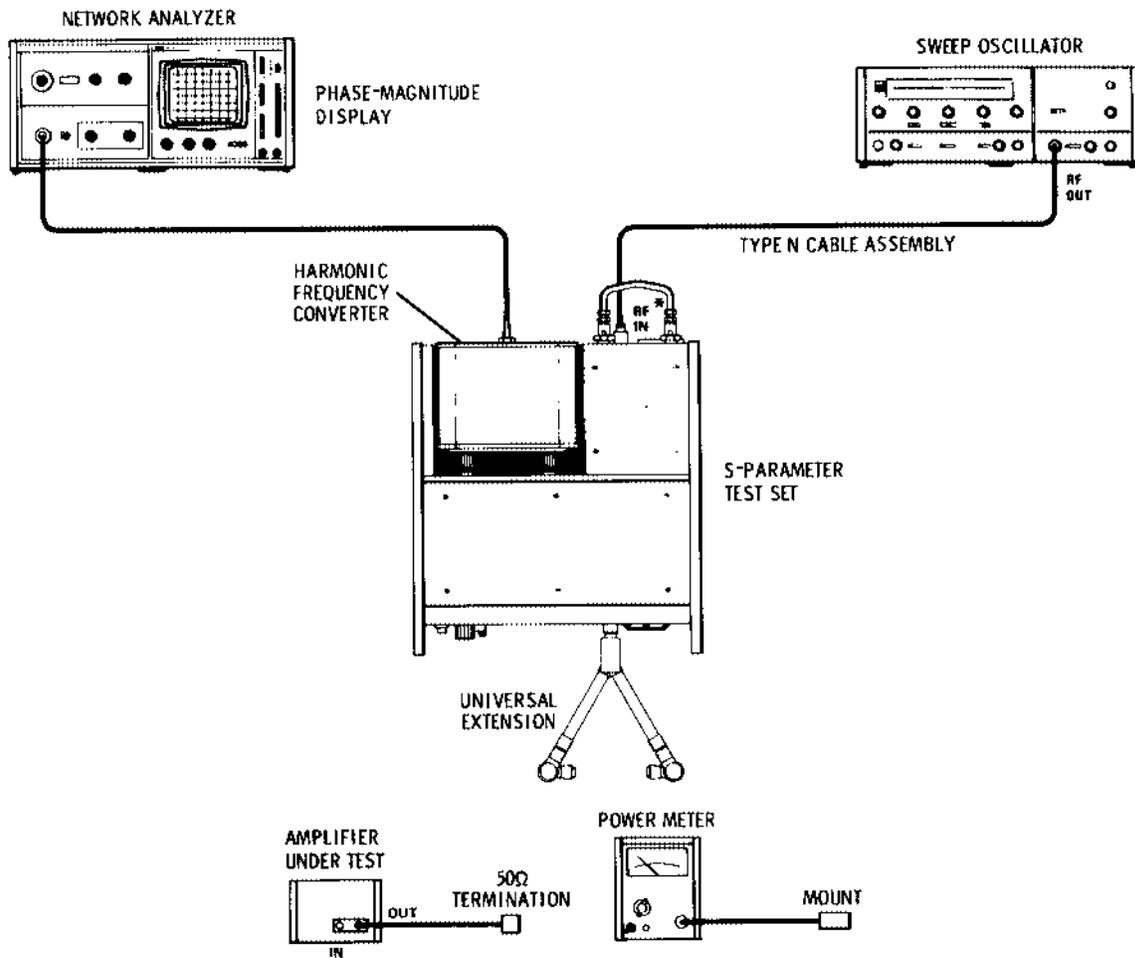

Figure 6
- 6 Connect the equipment as shown in Figure 6. Set the sweep oscillator for a leveled CW signal, sweeping from 110 to 220 MHz. Connect the power meter to the s-parameter test set INPUT PORT A and set the generator/sweeper output level for -15 dBm as read on the power meter.